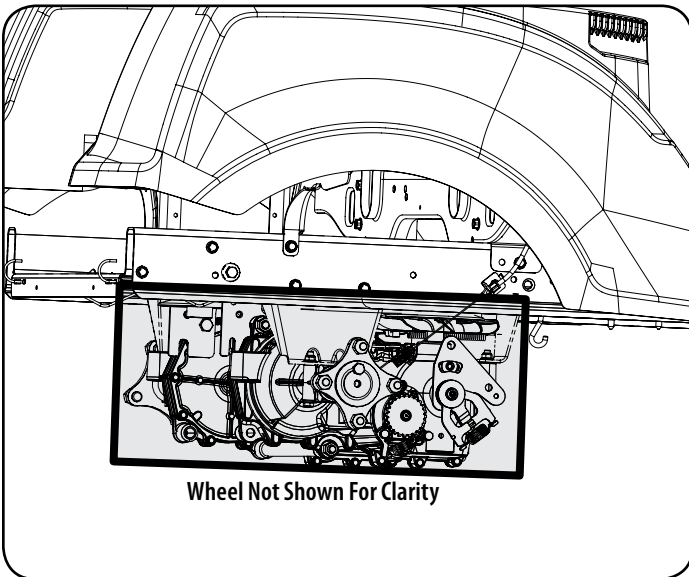

Figure 22
- Clean around and near the transmission, axle and the fan area. See Figure 22.